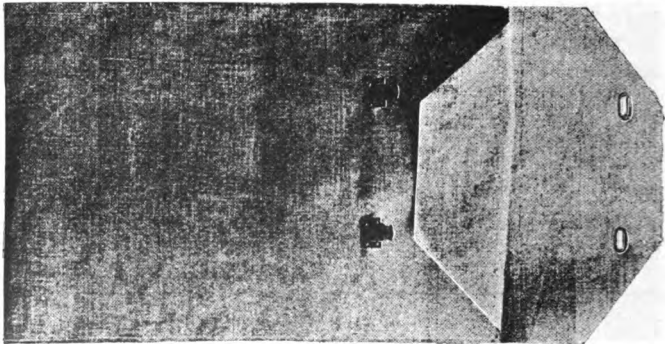

Fig. 18—Inner Tube Bag.
**INNER TUBE BAG.**—(See Fig. 18.) These bags are water-proof and large enough to contain three tubes. Plenty of French chalk should be in and around the tubes. The air-tube should never be allowed to knock about with the tools or spare parts.